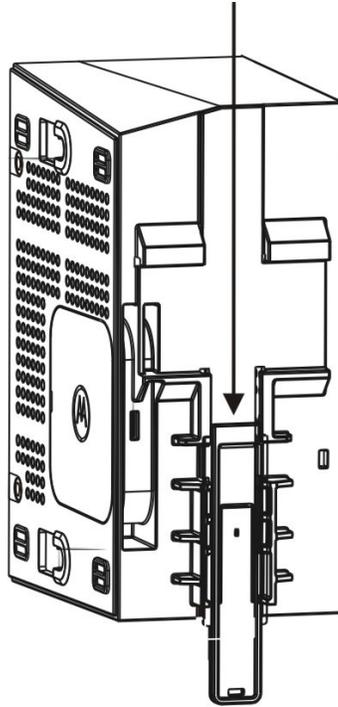

Figure 2-2 Plastic Tab in the ACE1000 Unit
- 1) Slide the supplied plastic tab at the back of the unit all the way down to the bottom of the unit. See Figure 2-2. If the ACE1000 unit includes one or more I/O expansion modules, repeat this step for all I/O expansion modules.